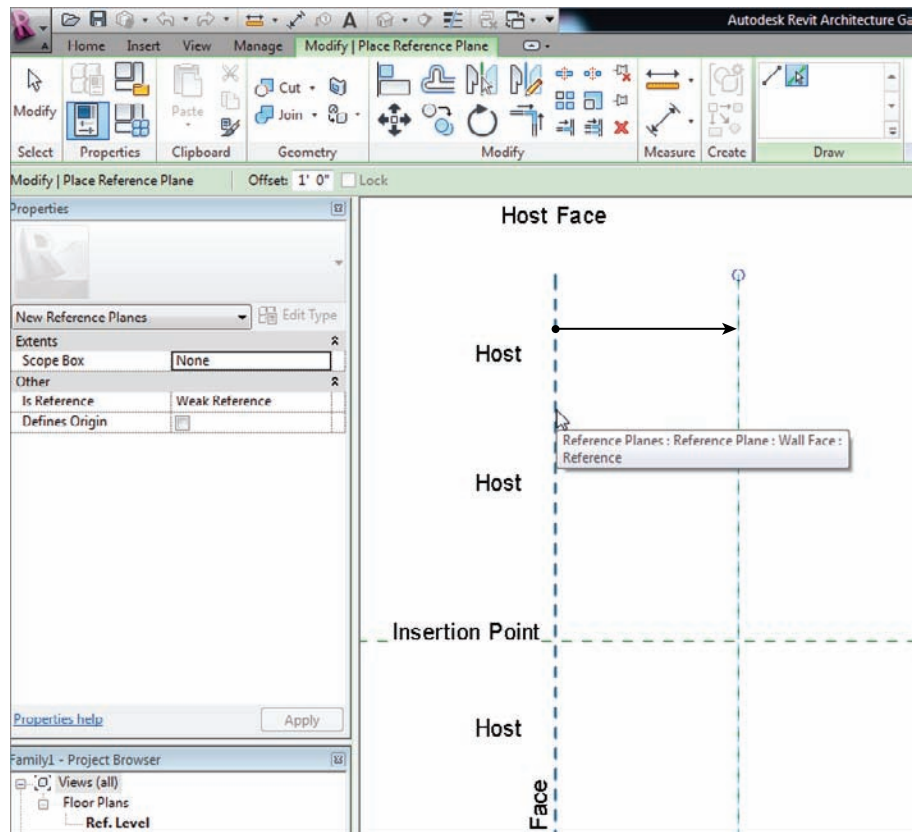

FIGURE 17.2 Adding a second vertical reference plane
4. Hover your cursor over the center, vertical reference plane. When the blue reference line appears to the right of the vertical plane (as shown in Figure 17.2), pick the center reference plane. You now have two vertical reference planes spaced 1'-0" (300mm) apart.